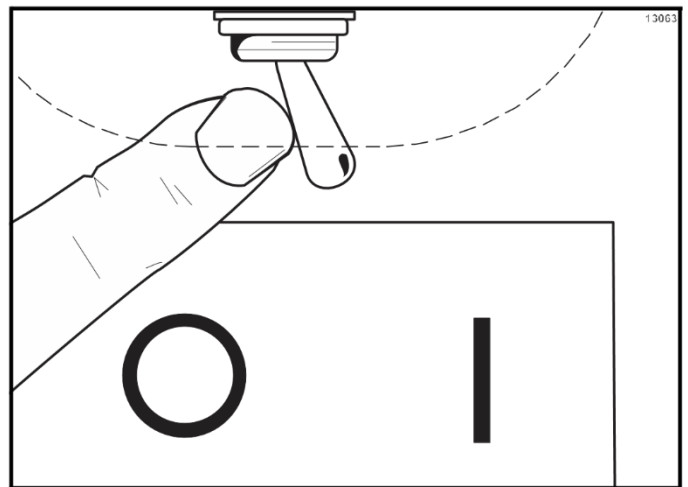

Figure 34
5. Clear any clogged product from the feed tube (Figure 34) then lay feed tube back into the hopper for a final rinse.
6. Place the power switch in the ON position. Figure 34